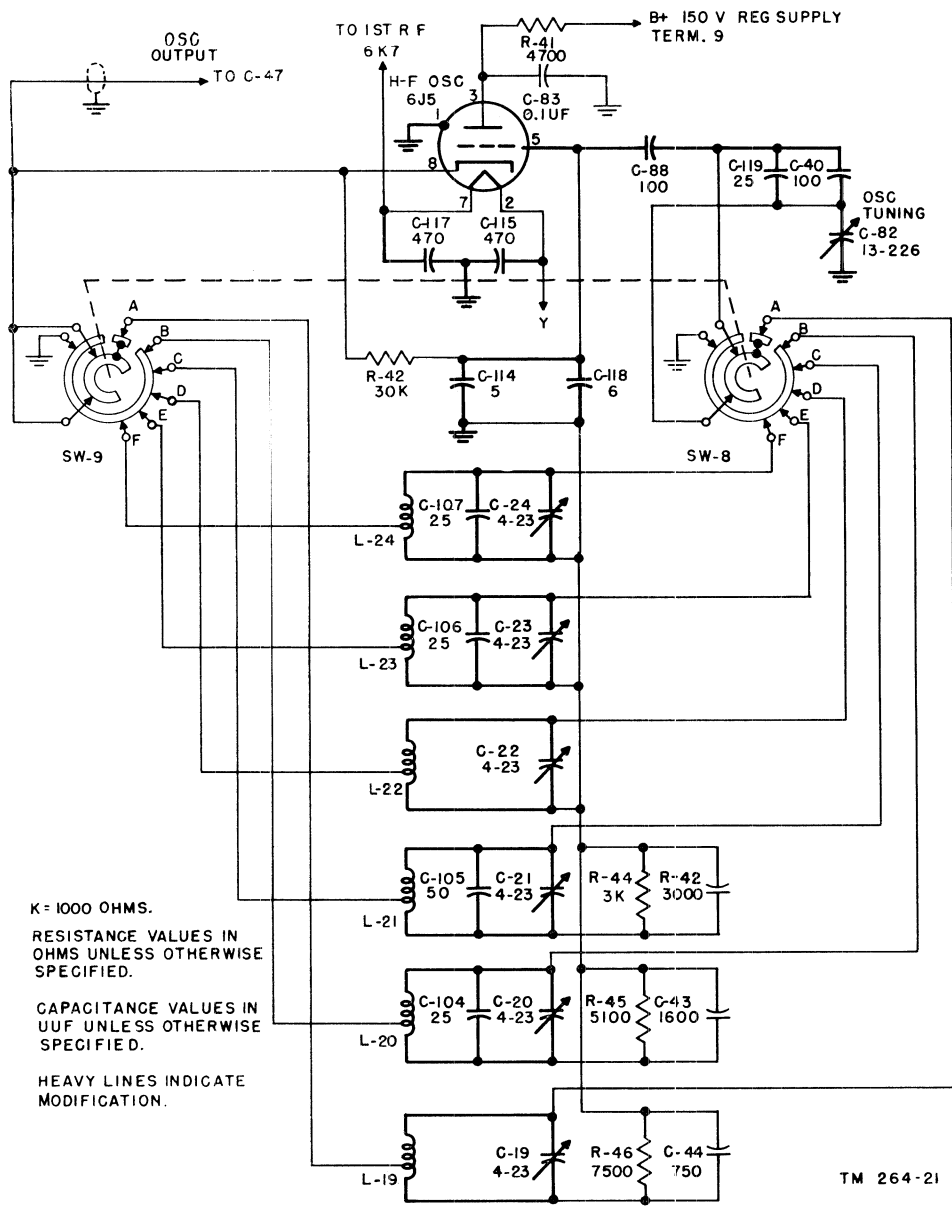

Figure 48. Radio Receiver R-336/GRC-26, h-f oscillator, schematic diagram.
a. MODIFICATION OF H-F OSCILLATOR STAGE (fig. 48). The h-f oscillator tube (V-4), a tube type 6C5, has been replaced by a tube type 6J5. In some cases, components of better temperature characteristics have been substituted, but theory of these items remains the same. The variable tuning capacitors connected across the grid coils on each band have been replaced with smaller variable capacitors of from 3 to 20 uF (C-19, C-20, C-21, C-22, C-23, and C-24). On bands B, C, E, and F, temperature compensating capacitors C-104, C-105, C-106, and C-107, respectively, have been added in parallel with the variable capacitors to compensate for the reduced capacity and for the inductance change in the coils due to temperature changes. Oscillator coils L-19, L-22, and L-23 have been rewound, as necessary, for new circuit constants. Capacitors C-118 and C-114 are connected from the grid of the oscillator tube to ground to compensate for variations in the grid circuit due to temperature fluctuations. Capacitor C-40 was replaced with two ceramic type capacitors, a 100 uF (reference symbol remains C-40) in parallel with a 25 uF (C-119). Both sides of the r-f oscillator tube filaments were placed at r-f ground potential